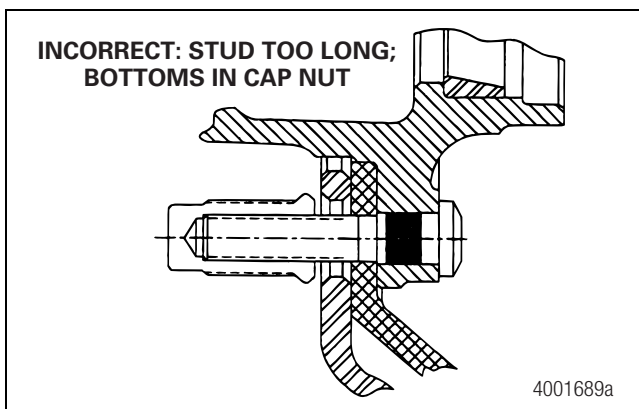
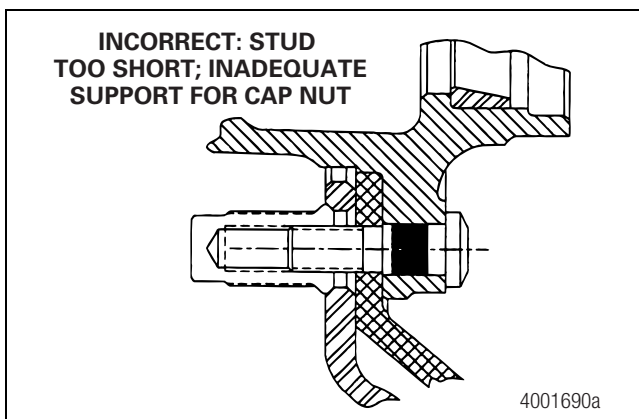

Figure 13.36
Figure 13.37
- B. Figure 13.36 and Figure 13.37 show incorrect standout.